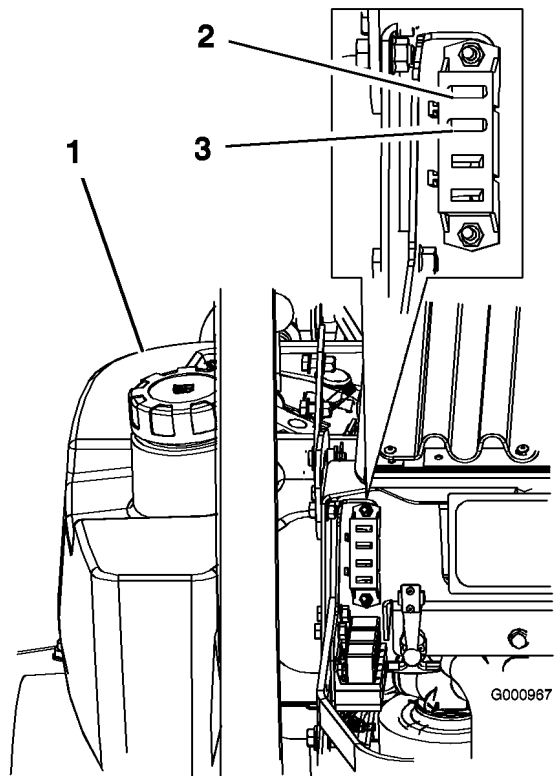

Figure 46
1. Unlatch the engine hood and raise the engine hood to gain access to fuse holder (Figure 46).
3. Install a new fuse (Figure 46).